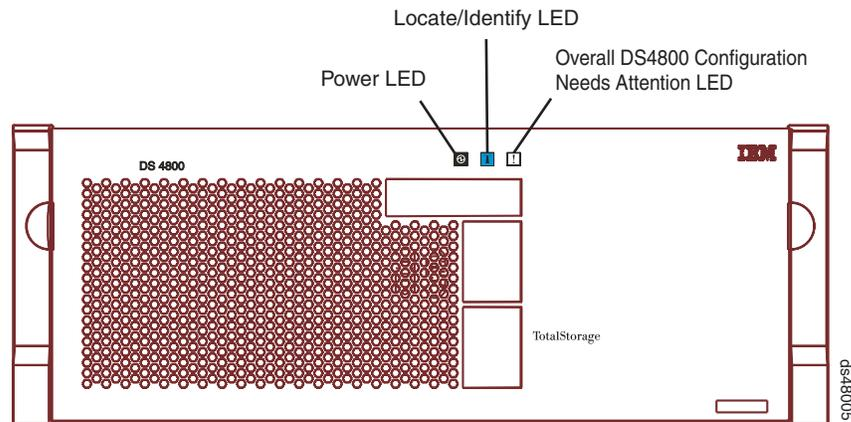

Figure 81. Overall DS4800 Configuration Needs Attention LED on the DS4800 front bezel
1. Locate the failed interconnect-battery unit by checking the Overall DS4800 Configuration Needs Attention LED on the front bezel of the storage subsystem. (Figure 81 shows the location of the Overall DS4800 Configuration Needs Attention LED on the front bezel.)